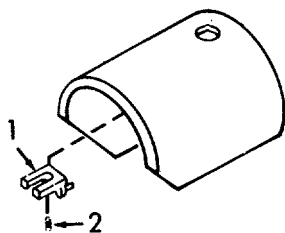

Figure 6-99. Latch Guard and Latch, Assembly.
(1) Inspect hardware for damage.
(2) Inspect latch guard and latch for damage.
(3) Inspect the bobbin case and rotary-sewing hook assembly for damage.
(4) Inspect hook shaft gear for damage.
(5) Inspect the hook shaft for damage.
(6) Inspect front and rear hook shaft collars for damage.
(7) Inspect bushing and yoke bushing for damage.
f. Assembly (Refer to Figure 6-99).